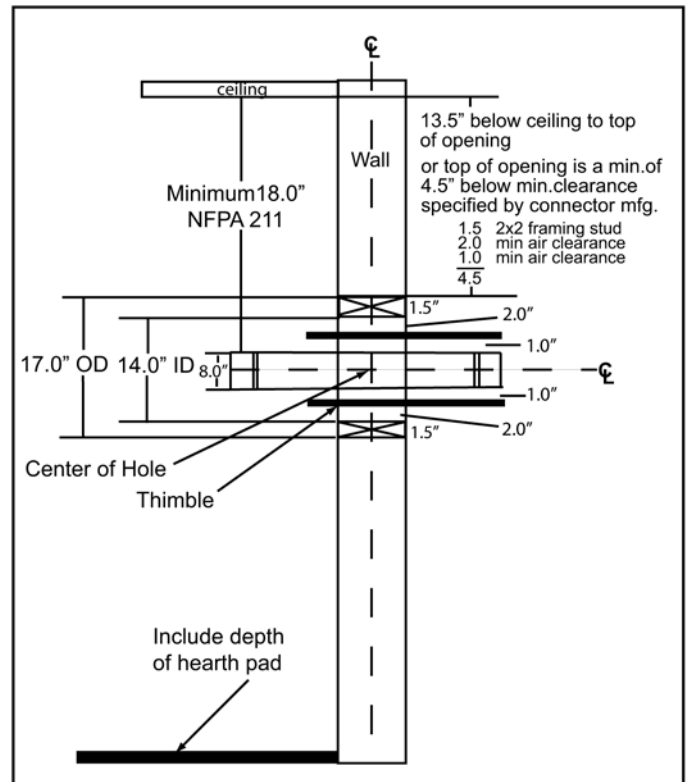

Figure 6.1
- Top of wall opening is a minimum of 1-1/2 inches (4mm) from ceiling or 4-1/2 inches (114mm) below minimum clearance specified by chimney connector manufacturer. NFPA 211 minimum vertical clearance of 18 inches (457mm) from chimney connector and ceiling or minimum recommended by chimney connector manufacturer. **Figure 6.1.**
1. Open inside wall at proper height for the chimney connector to enter the masonry chimney. **Figure 6.1.**
3. Construct a 17 inch x 17 inch (42mm x 42mm) outside dimension frame from 2 x 2 framing lumber to fit into wall opening. Inside opening of frame should be no less than 14 inch x 14 inch (56mm x 56mm). **Figure 6.1.**